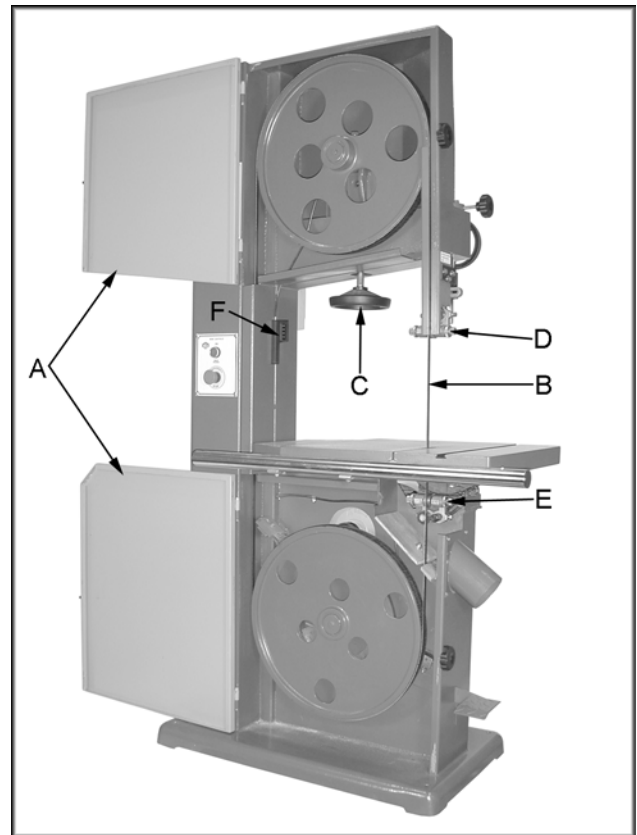

Figure 4
2. Open upper and lower doors (A, Figure 4).
5. Center the blade (B, Figure 4) on both the upper and lower wheels. Carefully thread the blade through the upper and lower blade guides as shown in Figure 4. **Note:** It may help to move the upper wheel down. This can be accomplished by rotating the handwheel (C, Figure 4).
2. At this point the blade should be properly positioned, but slack. Increase tension on the blade by rotating tensioning handwheel (C, Figure 4).
3. Move the upper guide assembly (D, Figure 4) and lower guide assembly (E, Figure 4) if they interfere with the blade during tensioning.
4. A reference gauge (F, Figure 4) indicates the approximate tension setting. **Note:** After setting tension and achieving the desired results make a note of what the tension gauge reads for the particular blade. This will help you get back to the desired tension if the particular blade has been removed or tension released. Keep in mind that blades will last longer if you release tension when not in use. Also, new blades will often stretch with use, and not all blades will be exactly the same length. Use blade tension gauge as a guide for individual blades.